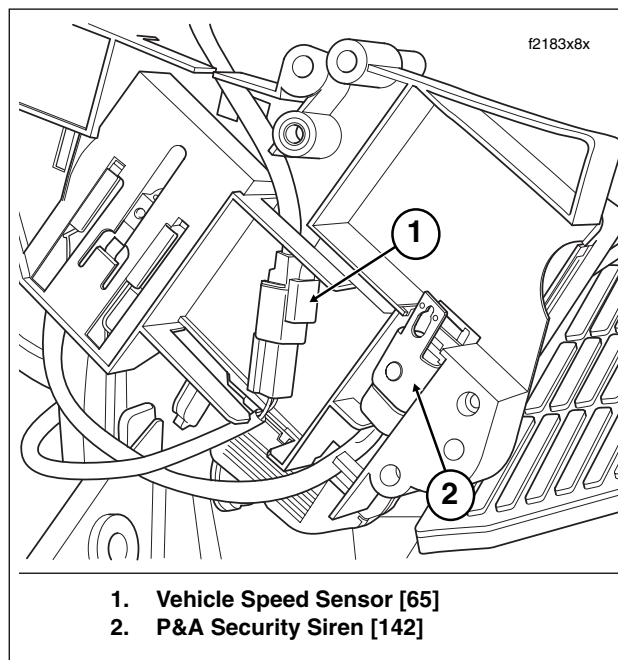

Figure 9-4. Electrical Bracket (Inboard Side)
3. Remove two flange nuts to release electrical bracket from studs on side of battery box. See Figure 9-4.
1. Install security siren connector [142] and vehicle speed sensor connector [65] on inboard side of electrical bracket as shown in Figure 9-4. Be sure that conduit and cables are properly routed or wires may be pinched during installation.